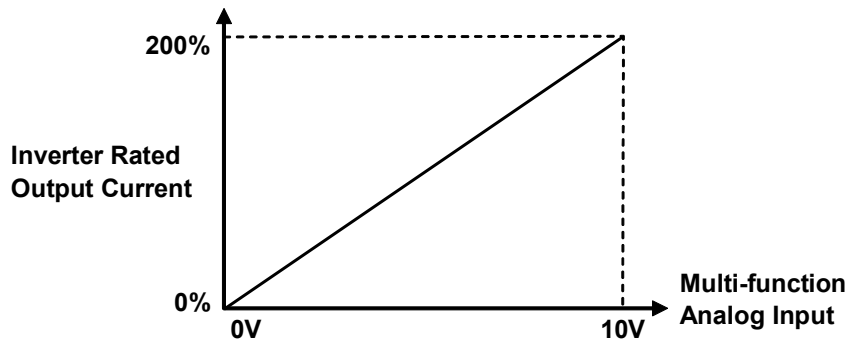

Fig. 1.4.1
- P3-01 Load Loss Detect Level is set as a percentage of inverter rated current. When Sn-29 = 16, the Load Loss Detect Level is determined by the voltage applied to the AUX input terminal as shown in Fig.1.4.1.